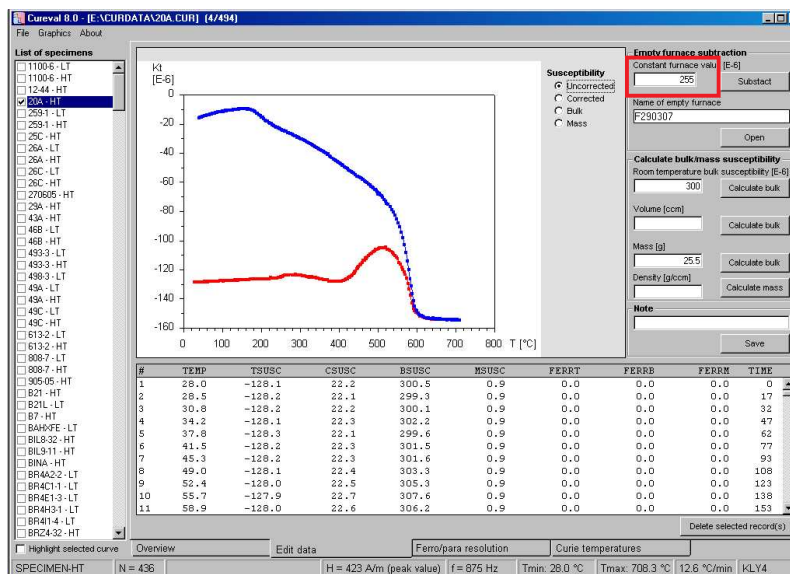

Figure 4: Subtraction of constant value, uncorrected data
- **Constant value** – Enter the empty cryostat/furnace susceptibility and hit the **Subtract** button (Fig. 4).